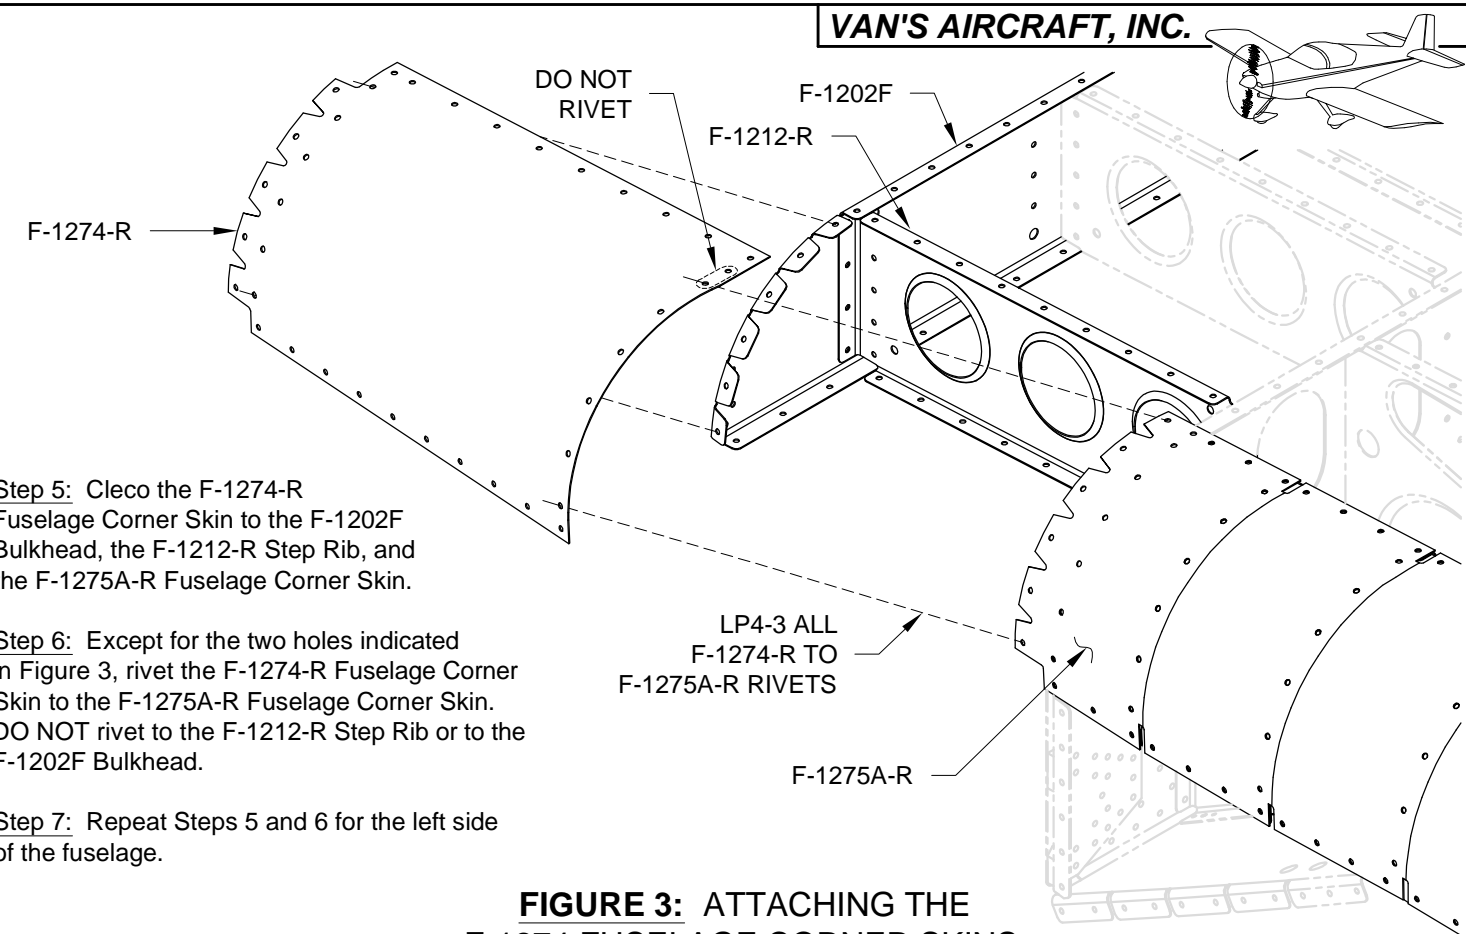

FIGURE 3: ATTACHING THE F-1274 FUSELAGE CORNER SKINS
Step 6: Except for the two holes indicated in Figure 3, rivet the F-1274-R Fuselage Corner Skin to the F-1275A-R Fuselage Corner Skin. DO NOT rivet to the F-1212-R Step Rib or to the F-1202F Bulkhead.